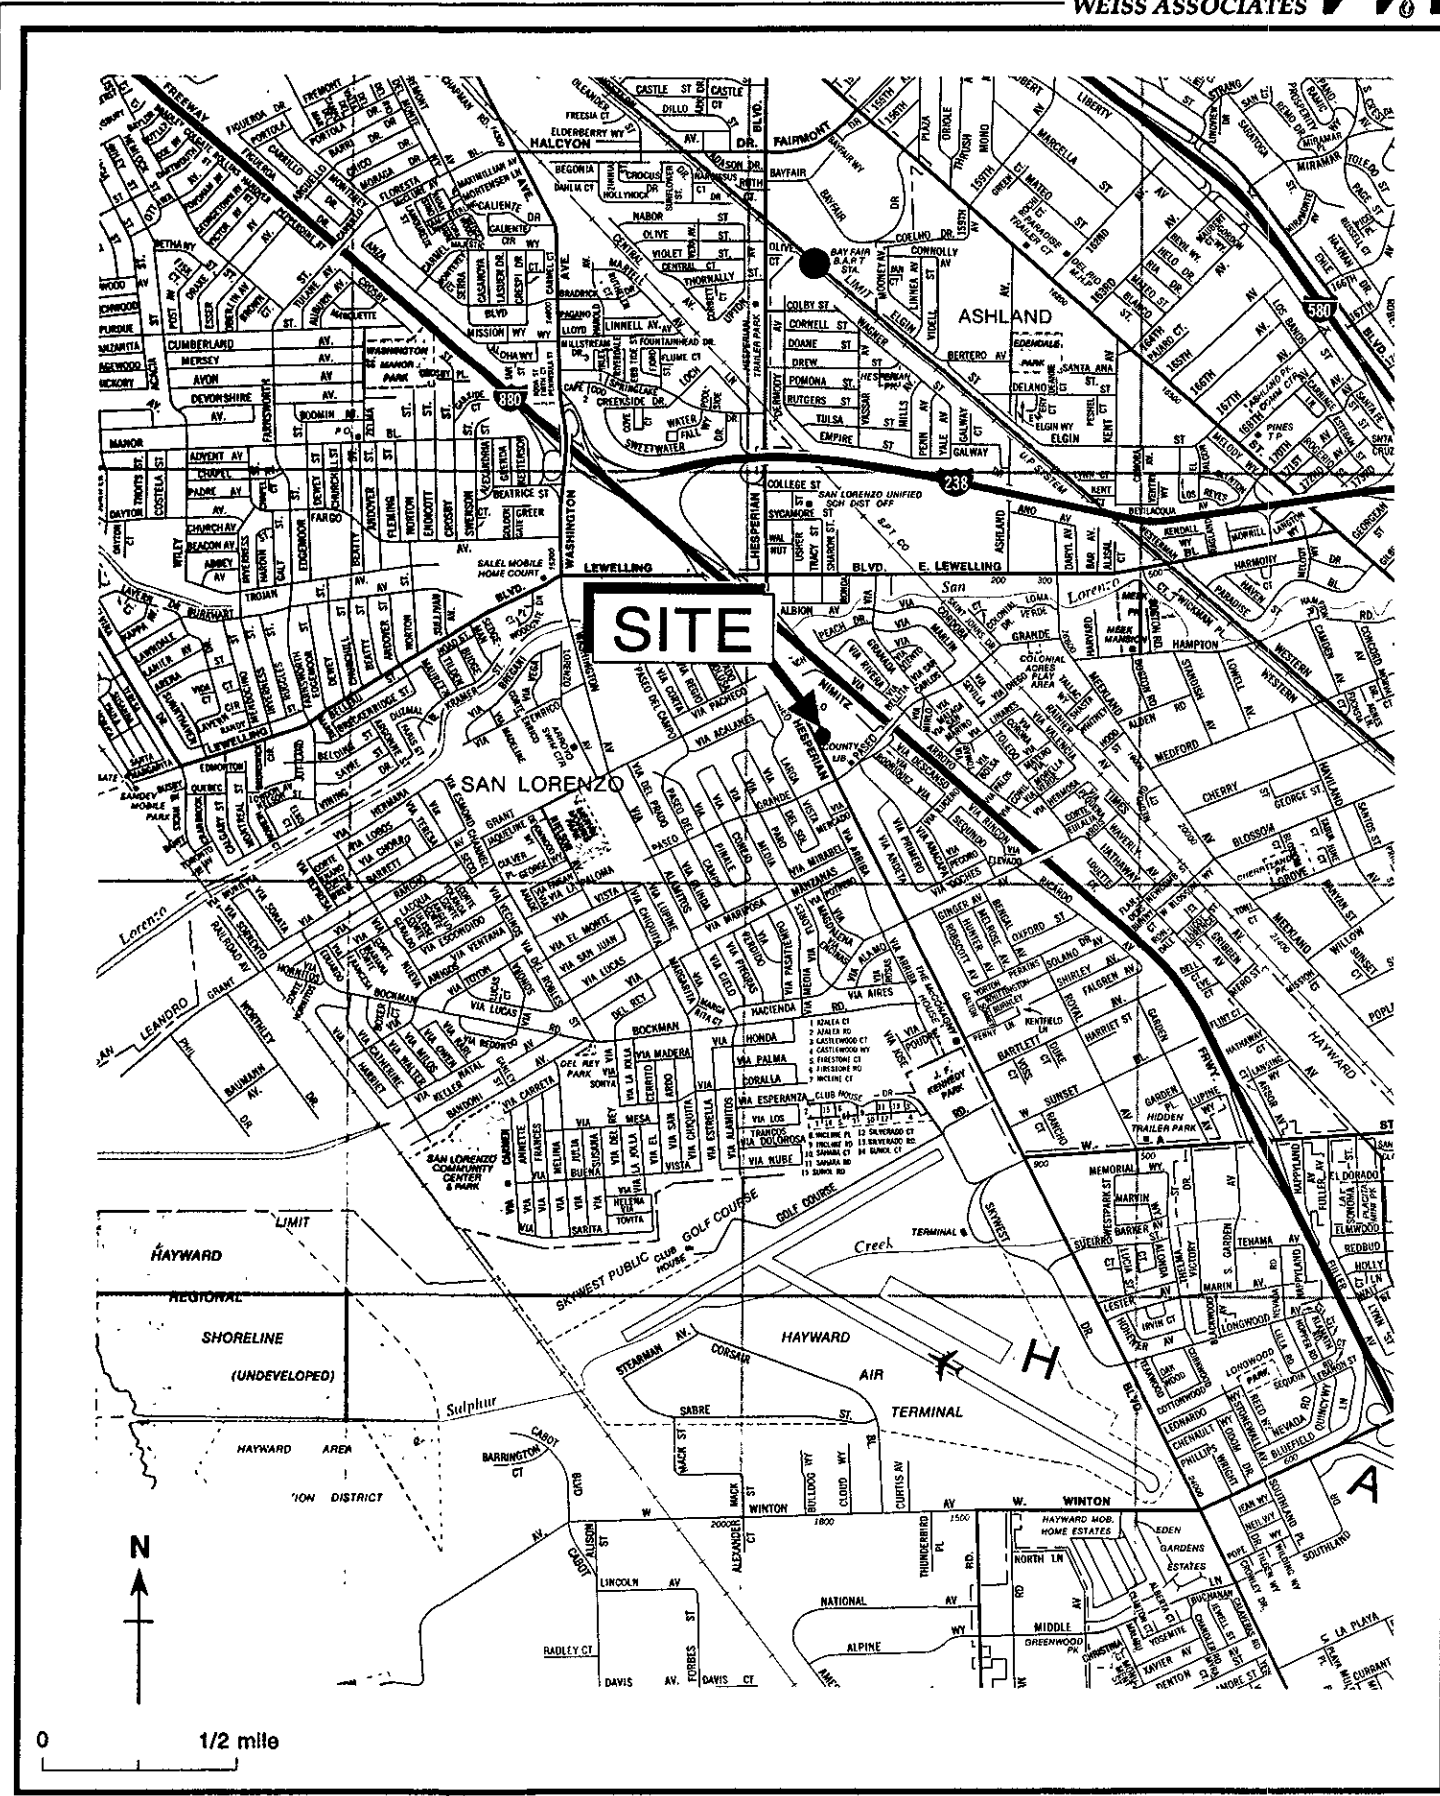
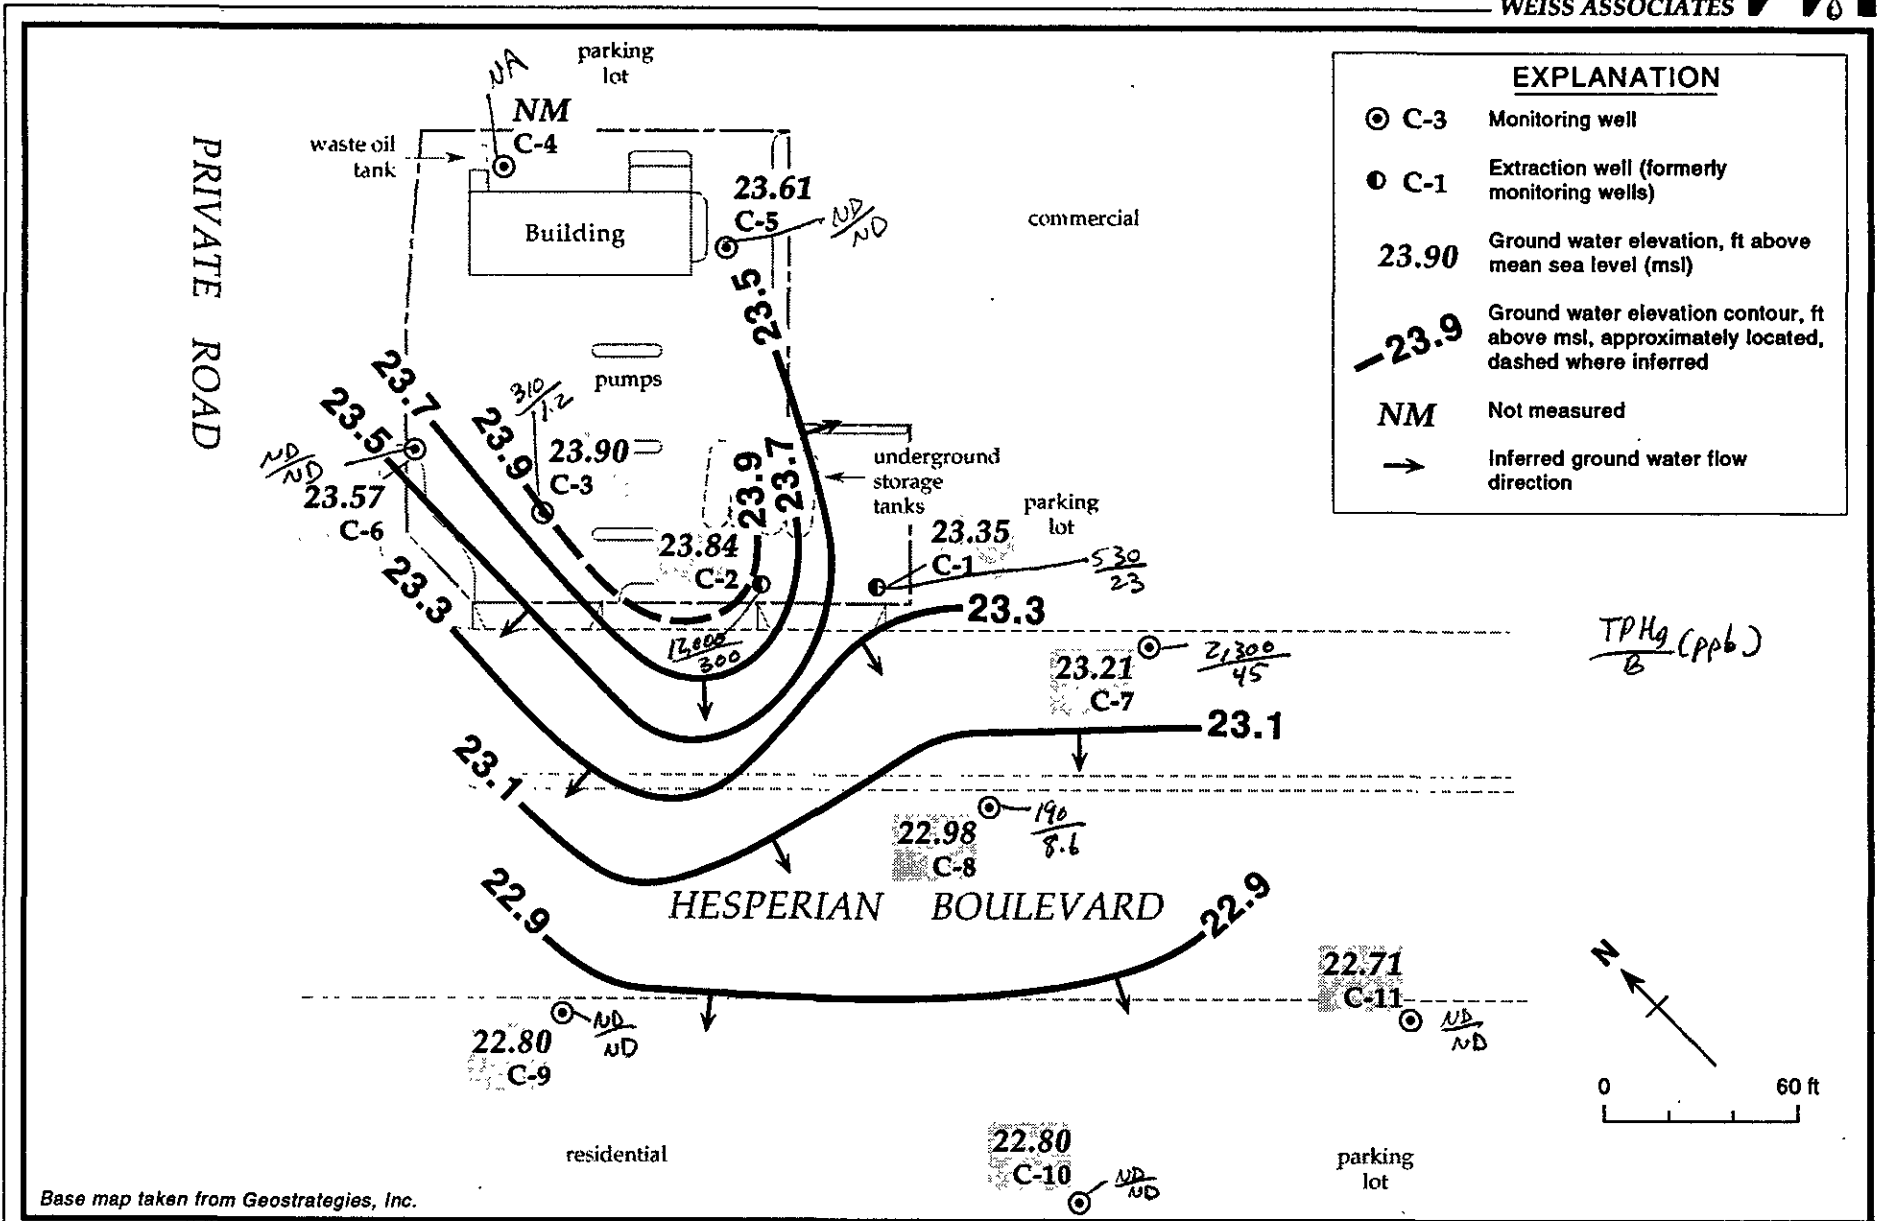

Figure 1. Site Location Map - Chevron Service Station #9-0504, 15900 Hesperian Boulevard, San Lorenzo, California
Figure 2. Ground Water Elevation Contour Map - March 31, 1994 - Chevron Service Station #9-0504, 15900 Hesperian Boulevard, San Lorenzo, California
As you requested, Weiss Associates (WA) is providing this Ground Water Monitoring Report for the site referenced above (Figure 1). WA sampled the ground water monitoring wells (Figure 2) on March 31, 1994, in accordance with the requirements and procedures of the California Regional Water Quality Control Board - San Francisco Bay Region and local regulatory agencies.
The top-of-casing elevation, depth to ground water, and ground water elevation for each well is presented in Table 1. Ground water elevation contours and inferred ground water flow direction are shown on Figure 2.